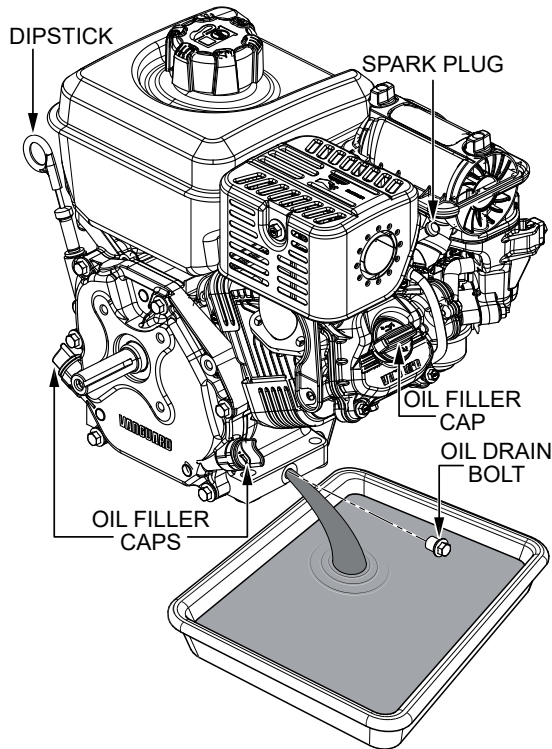

Figure 25. Draining Engine Oil
1. Remove the oil drain bolt (Figure 25). and allow the oil to drain into a suitable container.